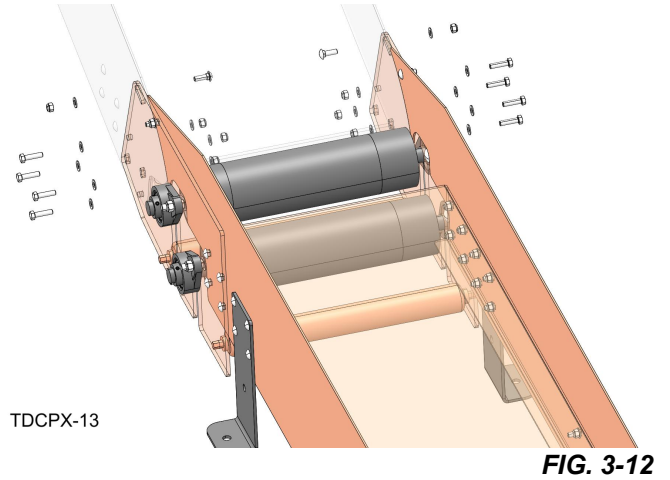

FIG. 3-12
3. Fasten the incline section to the first horizontal section as shown in FIG. 3-12. .